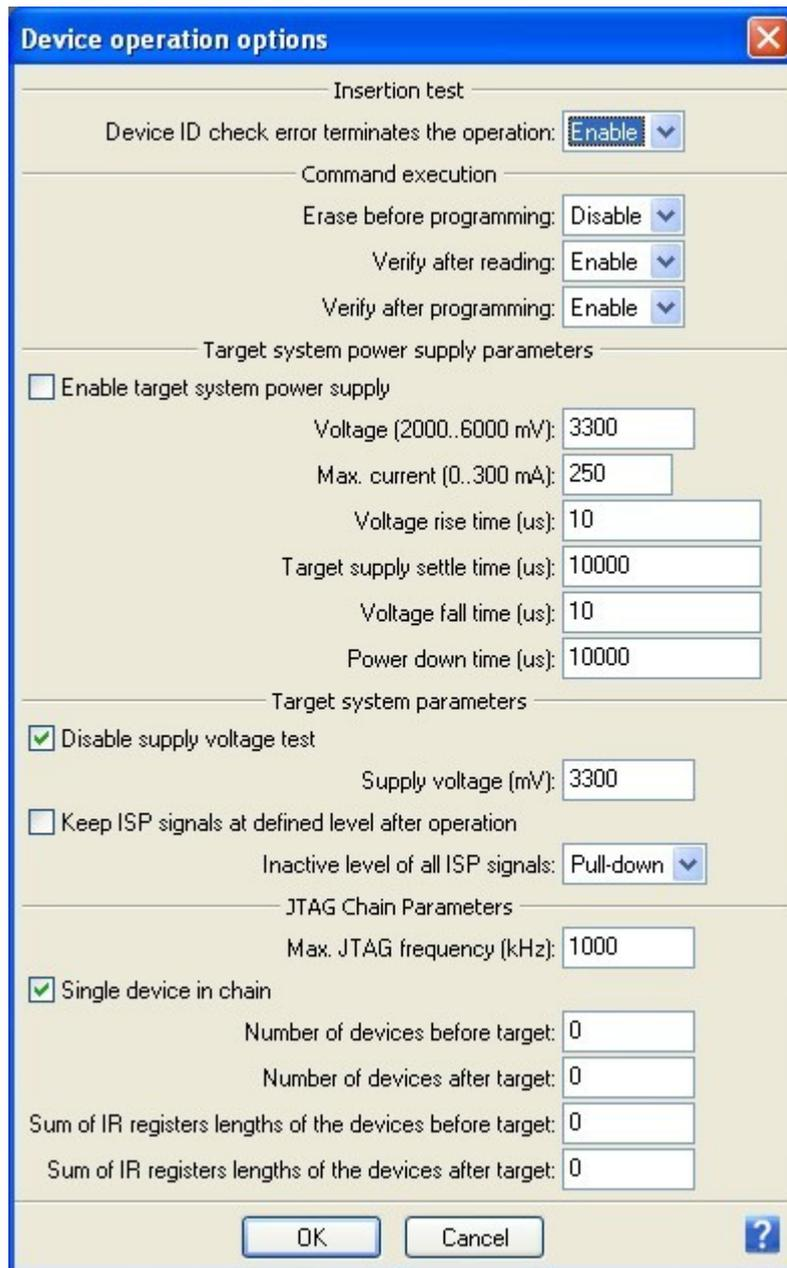

Figure 22: Device operation options for device supported in ISP-JTAG CHAIN mode
3. Display Device operation options dialog window, key shortcut <Alt+O> (see Figure 22).